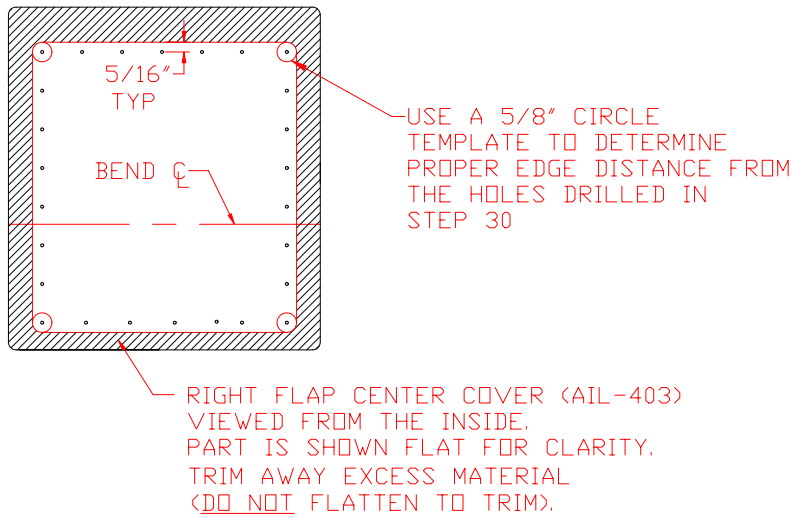

Figure 7.3.2
- 2) Remove the Center Hinge Cover (AIL-403) and trim as per Figure 7.3.2. When finished put aside for now.